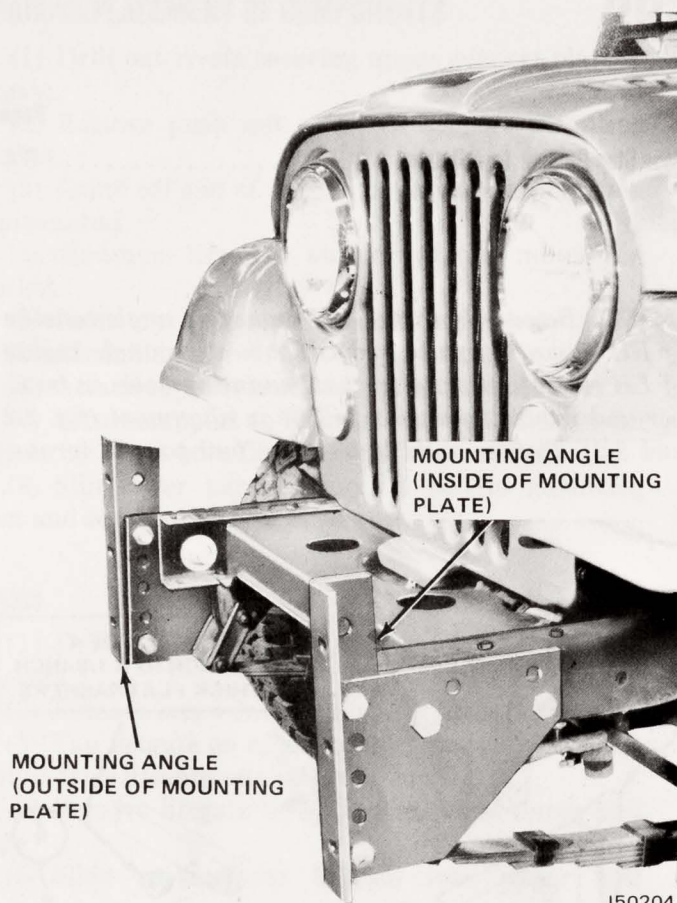

Fig. 3-3 Mounting Angles Installed
(6) Position mounting angles on mounting plates and secure with bolts and locknuts (fig. 3-3)